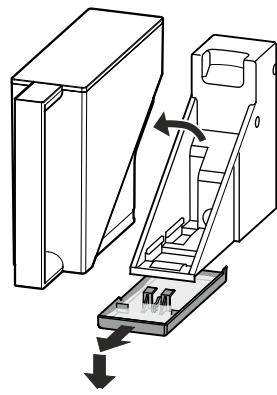

Figure 26
- To empty the water collecting tray: Remove the water tank. Carefully disengage the tray forwards and then lower for removal **Figure 26.**